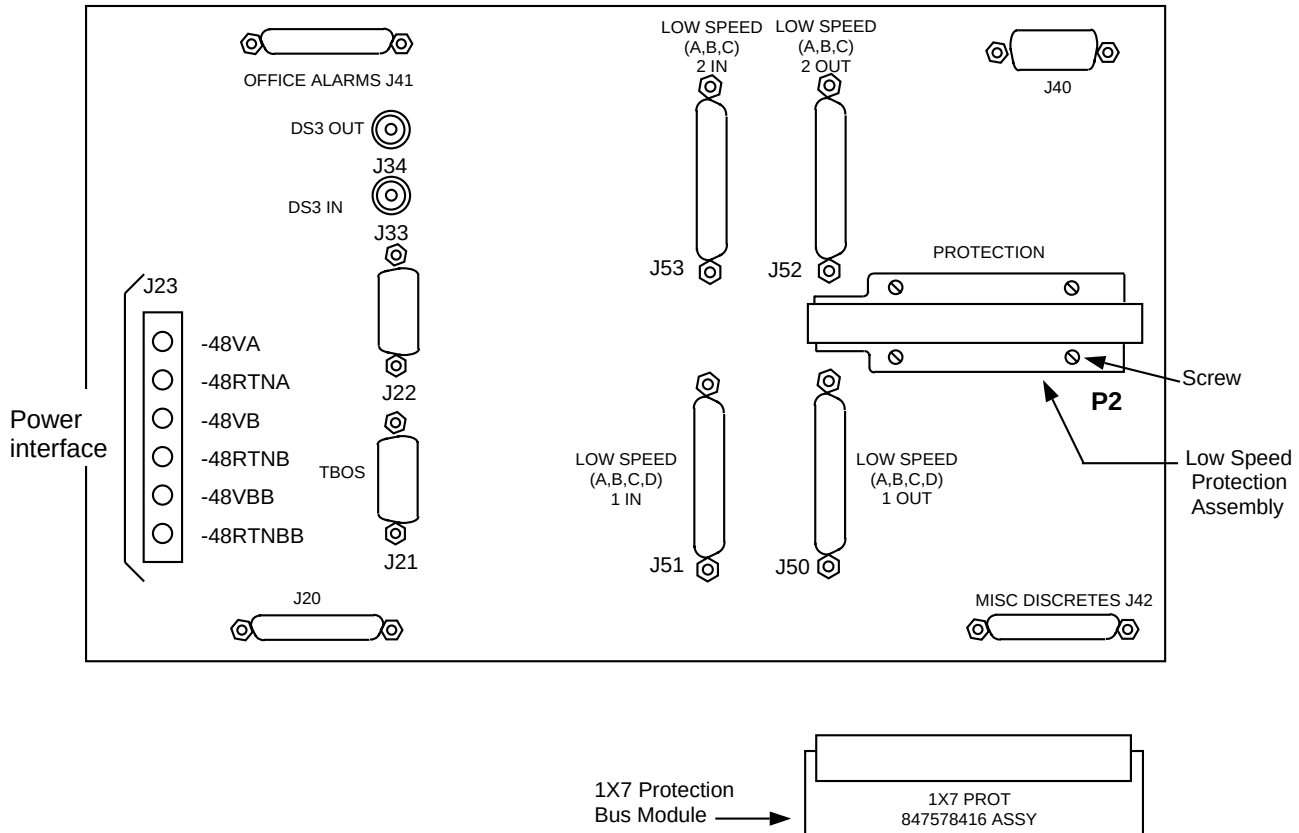

Figure 1 – FiberReach Protection Bus Module (1X1 or 1X7) Installation
See Figure 1. At right rear of shelf, remove the metal protection assembly cover by removing the four mounting screws.
6. If the protection mode is **1X7**, low-speed cables must be connected from **J50**, **J51**, **J52**, and **J53** to the DSX-1 or DS1 Interconnect Assembly. If the protection mode is **1X1**, you must not connect the low-speed cables to **J52** and **J53**. See Figure 1.